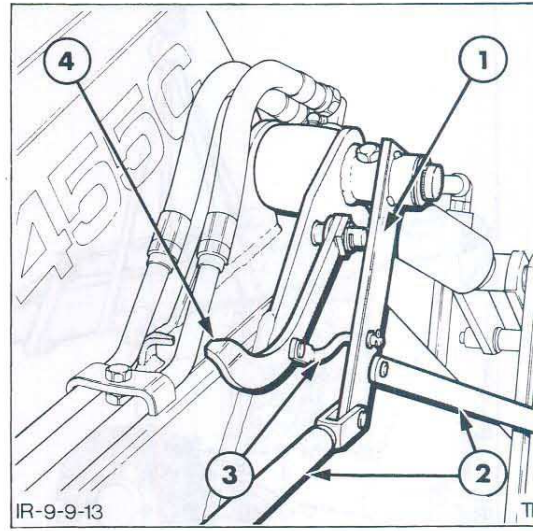

Figure 14
14. Re-assemble the hydro-mechanical self-levelling linkage ensuring that the centre of the loader arm on 455C Units is installed as shown in Figure 14.